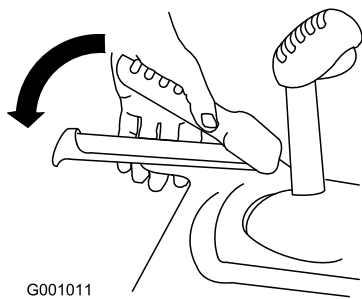

Figure 36
1. To engage the traction drive, squeeze the left hand (traction) lever to the handgrip (Figure 36).